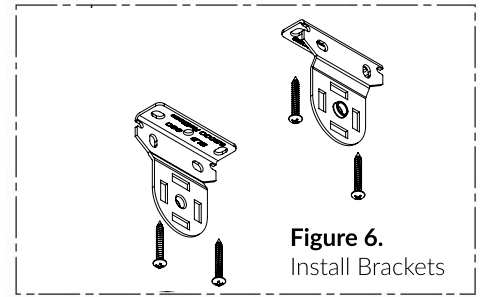

Figure 6. Install Brackets
Step 4. Mount the brackets flush with each end of the dustboard. The left and right Skyline brackets are identical so the clutch can be mounted on the left or the right side. See **Figure 6**.